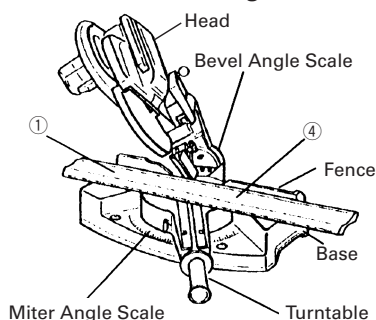
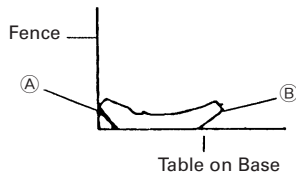

Fig. 38
Fig. 40
(1) Setting to cut crown moldings at positions ① and ④ in Fig. 36 (see Fig. 38; tilt the motor head to the left):
- ① Turn the turntable to the right and set the Miter Angle as follows:
- ② Tilt the motor head to the left and set the Bevel Angle as follows:
- ③ Position the crown molding so that the upper surface (A in Fig. 35) contacts the fence as indicated in Fig. 40.